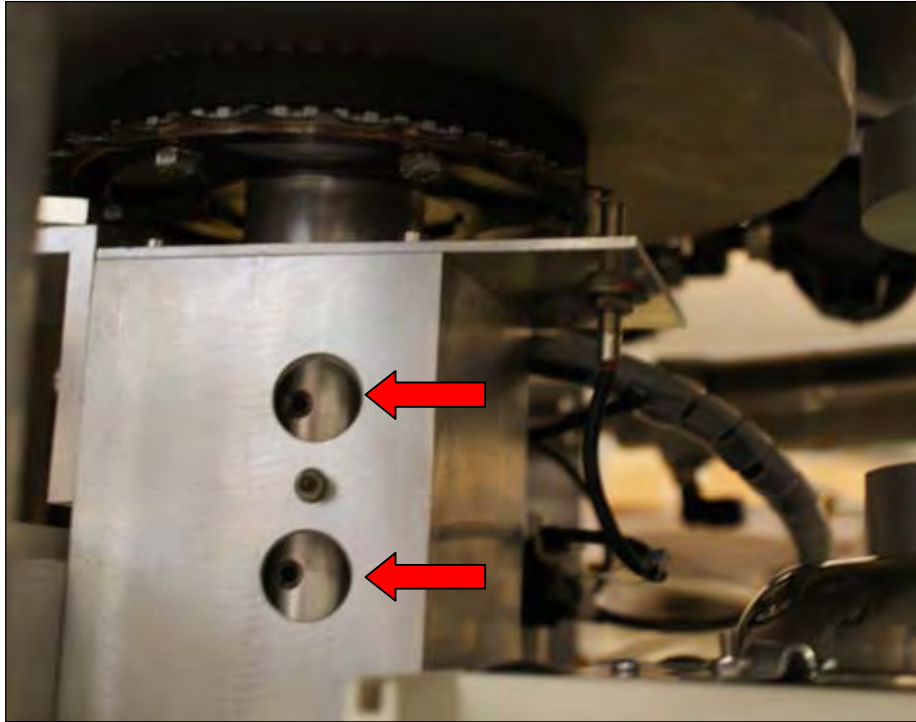

Fig. 1.2.: LHS – Guidance of Carouseladaptor (screws marked by red arrows)
- c.) Fasten the carouseladaptor with the 4 x 2,5 mm screws (respectively 2 screws at 90° shifted) through the two openings at the guidance (LHS). To fasten the screws move the carouseladaptor until the screws are visible at the openings (see Fig. 1.2).